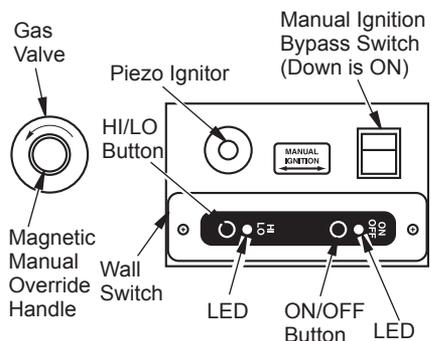

Figure 50 - Control Locations
- Set manual ignition bypass switch on control panel to ON position (manual ignition position). See Figure 50.
- Place the magnetic manual override handle, provided with this unit, on the end of the gas valve stem (see Figure 50).
- While holding the valve handle in the PILOT position, press and release piezo ignitor button (see Figure 50). This will light the pilot. If needed, keep pressing ignitor button until pilot lights.